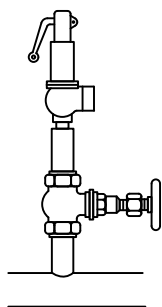

Fig. 4
- 6.3** There should be no intervening valve or fitting i.e. it should not be possible to isolate the safety valve (Figure 4).